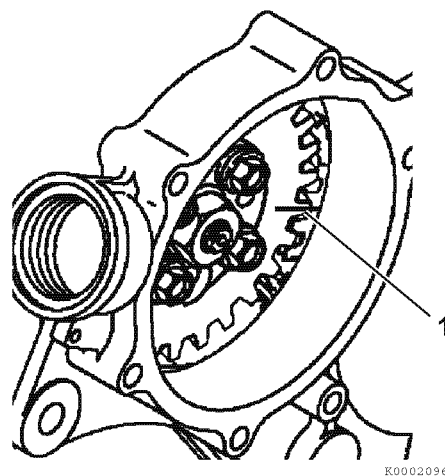

Figure 7-16
- On TNV94 - 106 model engines, the idler gear is visible. Make a reference mark (1, **Figure 7-16**) across both the fuel injection pump drive gear and the idler gear.